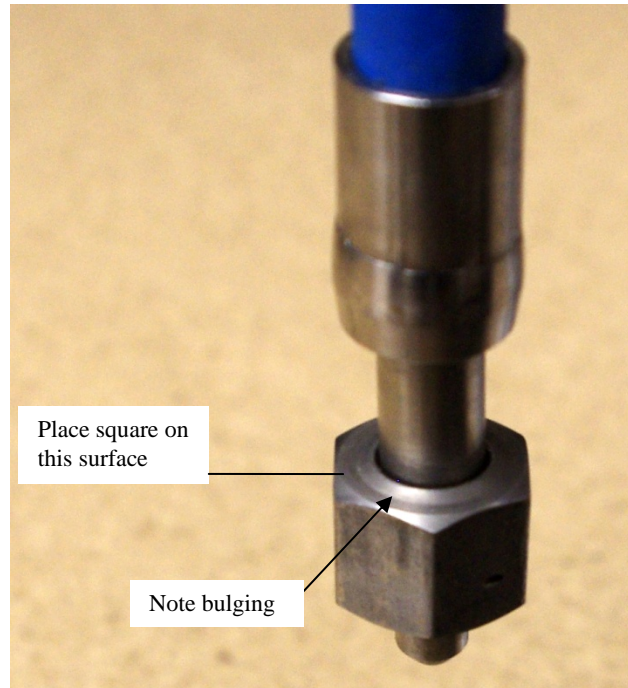

Figure 5-2: Yielded or Bulging Drive Cable Nut
3. Inspect the drive cable nut, noting any cracks, bulges, or yielding (**Figure 5-2**).
4. Verify that the back of the nut is flat by placing a small square across the back of the nut (**Figure 5-2**).